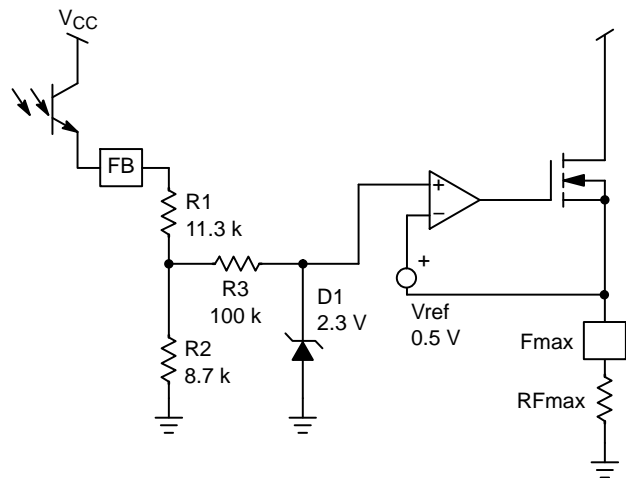

Figure 26. The OPAMP Arrangement Limits the VCO Modulation Signal between 0.5 and 2.3 V
The designer needs to program the maximum switching frequency and the minimum switching frequency. In LLC configurations, for circuits working above the resonant frequency, a high precision is required on the minimum frequency, hence the $\pm 3\%$ specification. This minimum switching frequency is actually reached when no feedback closes the loop. It can happen during the startup sequence, a strong output transient loading or in a short-circuit condition. By installing a resistor from Pin 4 to GND, the minimum frequency is set. Using the same philosophy, wiring a resistor from Pin 2 to GND will set the maximum frequency excursion. To improve the circuit protection features, we have purposely created a dead zone, where the feedback loop has no action. This is typically below 1.1 V. Figure 26 details the arrangement where the internal voltage (that drives the VCO) varies between 0 and 2.3 V. However, to create this swing, the feedback pin (to which the optocoupler emitter connects), will need to swing typically between 1.1 V and 5.3 V.
As shown on Figure 26, the internal dynamics of the VCO control voltage will be constrained between 0.5 V and 2.3 V, whereas the feedback loop will drive Pin 6 (FB) between 1.1 V and 5.3 V. If we take the default FB pin excursion numbers, 1.1 V = 50 kHz, 5.3 V = 500 kHz, then the VCO maximum slope will be: